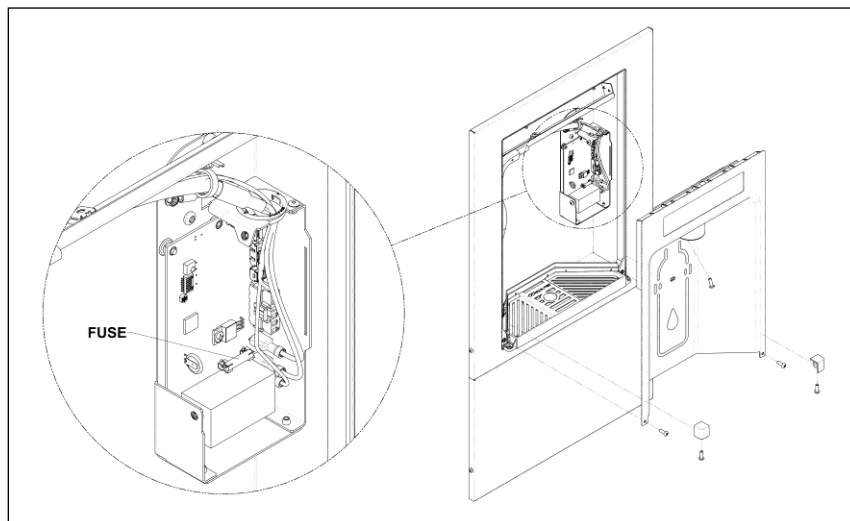

Figure 3: Fuse Replacement on Main Board, Behind Bottle Filler Alcove
3. Remove (2) T20 Torx screws underneath the molded corner covers on both the left and right side of the bottle filler platform. See Figure 3.
4. Remove (2) T20 Torx screws behind molded corner covers and (1) T20 Torx screw behind bottle filler nozzle.
6. Remove (2) T20 Torx panel screws securing main board cover.
8. Replace fuse according to the following table. (2) Spare Fuses are included inside bottle filler enclosure. Make sure fuse is centered in clips before pressing into place.